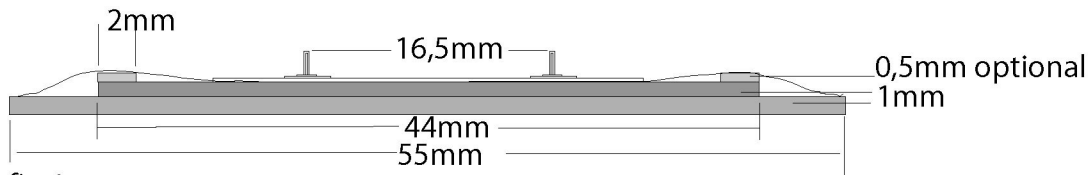

fig 1
- Create a stable cardstock base (as shown in figure 1) and glue the ballast (1) on top of it.
- To form the top part of the rail (3), score carefully along the lines indicated. Fold part 3 and glue both legs of part 3 together and cut the part to its correct size.
- Cut the lower section of the rail (4) and glue part 3 in the middle of part 4 to form the rail.
- Cut all individual sleepers (2) and glue them to the ballast (1). A wood profile can be scored into the sleepers.
- Cut all the small the chairs (5).